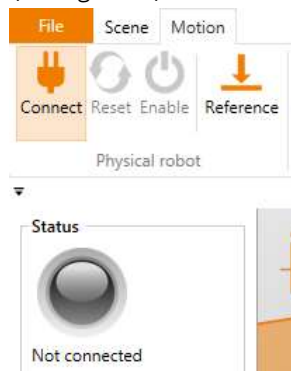

Figure 7.3: Icons for connecting to the hardware, resetting errors and enabling the motors; referencing icon; and "Status" indicator.
The real Robot can be controlled like the simulated one, only the hardware has to be connected first by clicking "Connect", "Reset " and "Enable" icons in the "Physical robot" ribbon group in the "Motion" tab (see Figure 7.3). After that the robot needs to be referenced.
2. Press the "Connect", "Reset" and "Enable" buttons (Figure 7.3).
3. Click on "Reference" icon (Figure 7.3) in the "Physical robot" ribbon group in the "Motion" tab (or "Reference robot" via "File" tab) to open the referencing window.